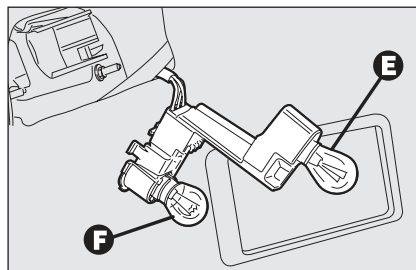

fig. 39
- ☐ remove and replace the burnt-out bulb by pressing it slightly and turning it counter-clockwise **fig. 39**: